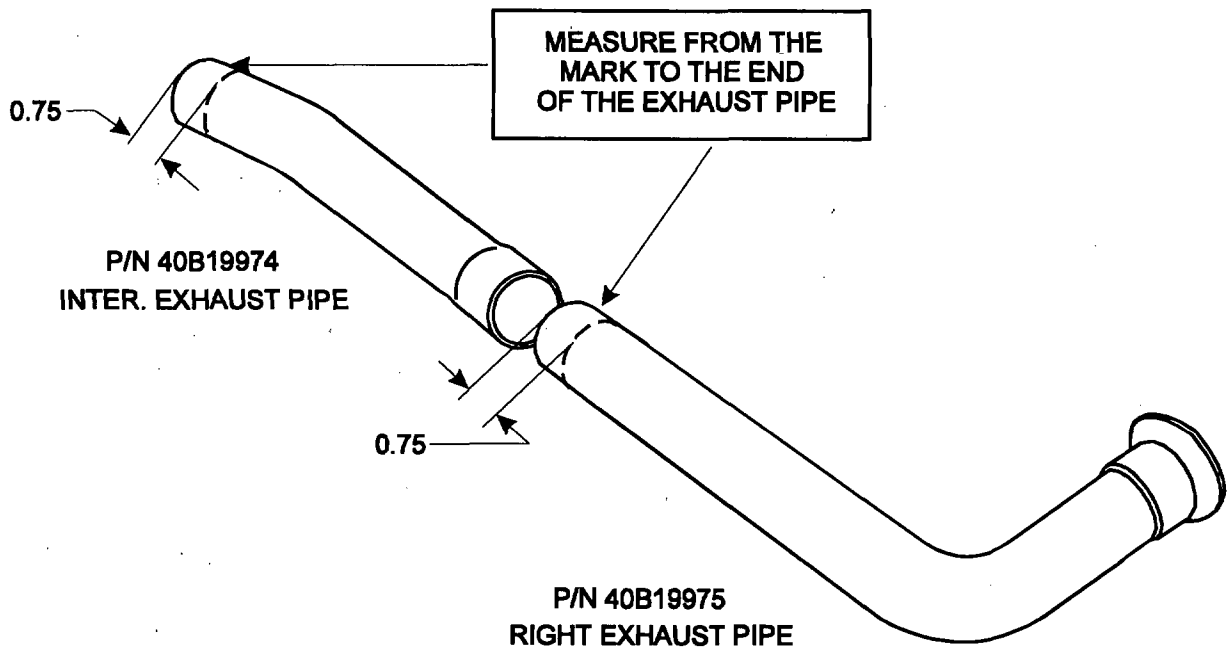

Figure 4. Measuring Engagement of Slip Joints
8. To check the slip joint engagement, measure the distance from the mark in step 2. to the end of the P/N 40B19975 right exhaust pipe. If this measurement is less than 0.75 inch, the P/N 40B19975 pipe must be replaced. See Figure 4.